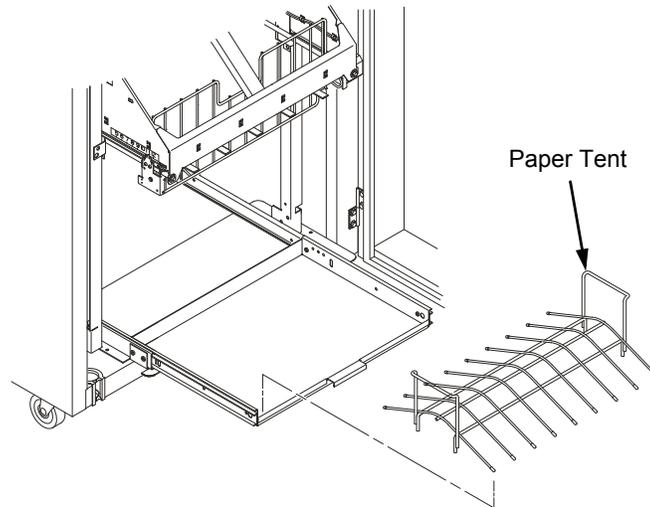

Figure 6. Removing the Paper Tent
4. Remove the paper tent (if present). (Figure 6.)